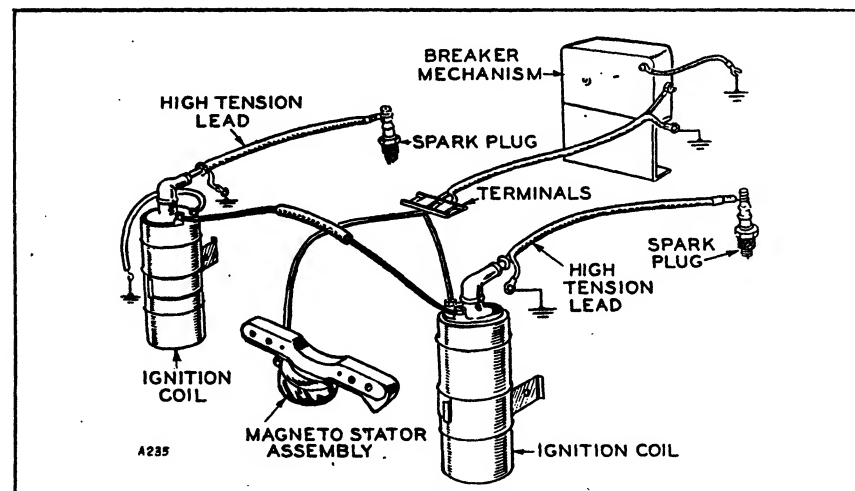

FIG 44-IGNITION SYSTEM
16. Disconnect all leads from the ignition coil or breaker box terminals. See Fig. 44.